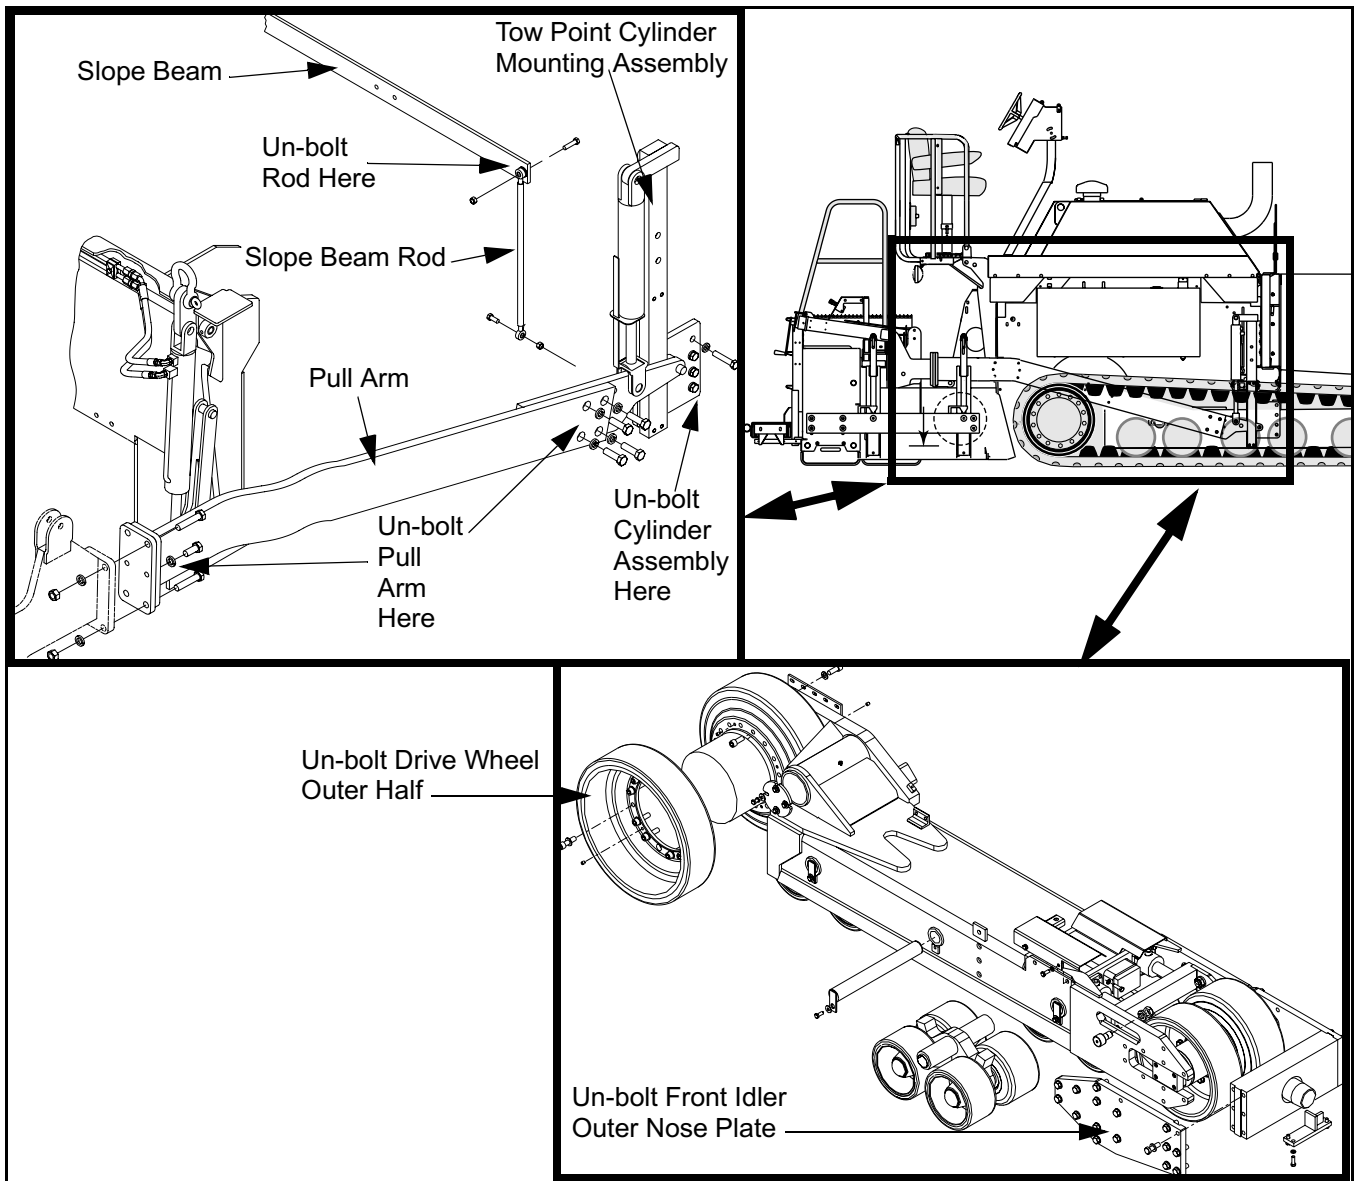

Figure 6 - 16 Rubber Track Removal
- 3) Install front idler outer nose plate (Figure 6 - 16).